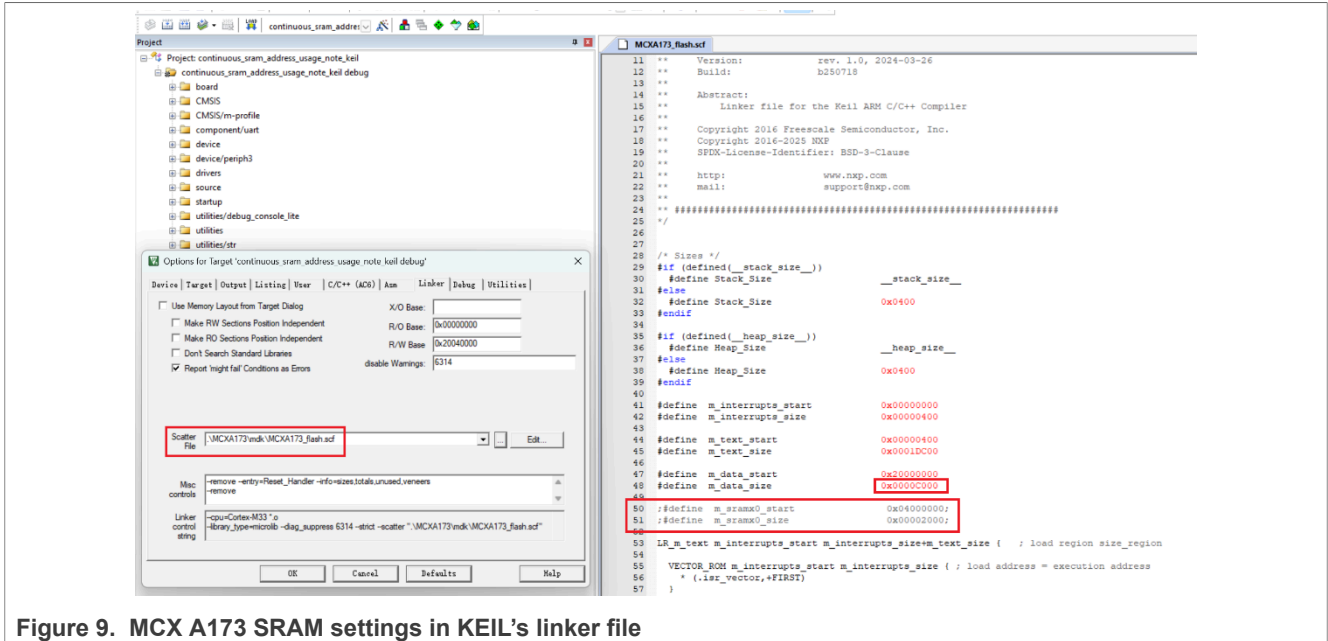

Figure 9. MCX A173 SRAM settings in KEIL's linker file
- For MCX A173, as shown in Figure 9: